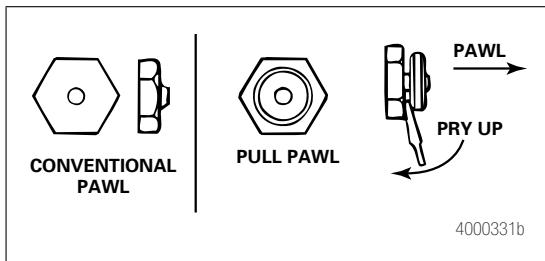

Figure 4.3
3. Disengage the pull pawl. Use a screwdriver or equivalent tool to pry the pull pawl at least 1/32-inch (0.8 mm) to disengage the teeth. Figure 4.3.
- **If the slack adjuster has a conventional pawl:** Remove the pawl. Figure 4.3.